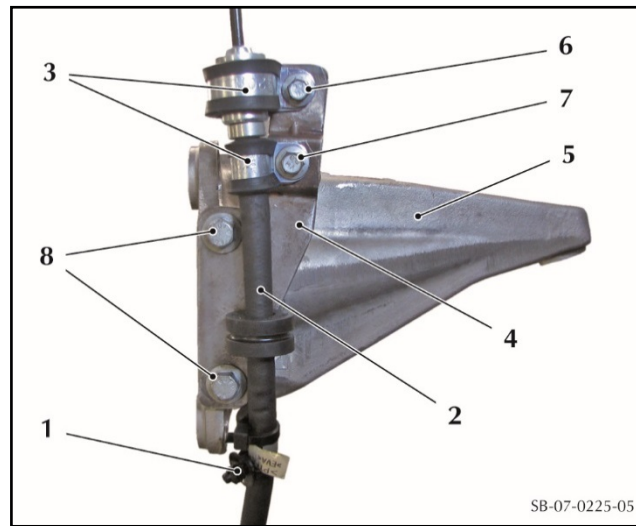

Figure 9
16. Cut and remove the fir-tree fixing (1) that attaches the ASM hose assembly (2) to the transmission (refer to Figure 9).
17. Install the two P-clips (3) onto the ASM hose assembly (2).
18. Put the new ASM hose bracket (4) in position on the transmission mounting bracket (5).
19. Loosely install the screw (6) that attaches the top P-clip to the ASM hose bracket (4).
20. Align the top P-clip (3), the ASM hose bracket (4) and the ASM hose (2).
21. Align the ASM hose bracket (4) with the holes in the transmission mounting bracket (5). Install and tighten the two attachment screws (8).